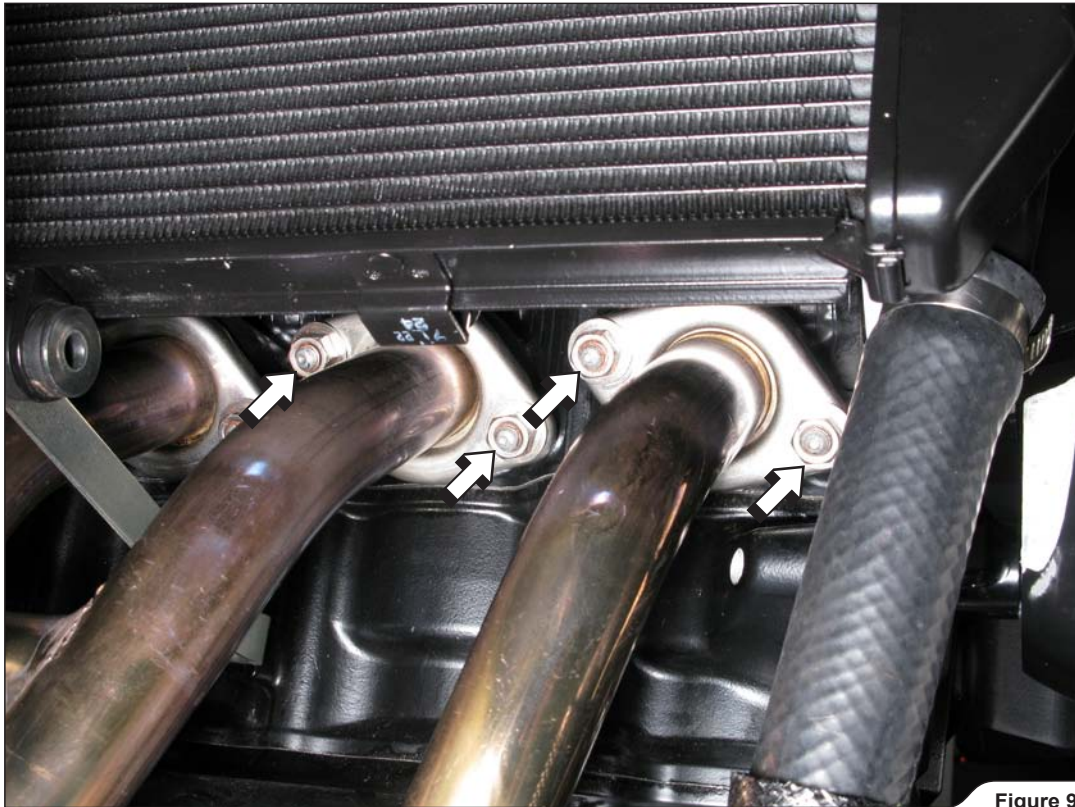

Figure 9
8. Unscrew all eight flange nuts (Figure 9).